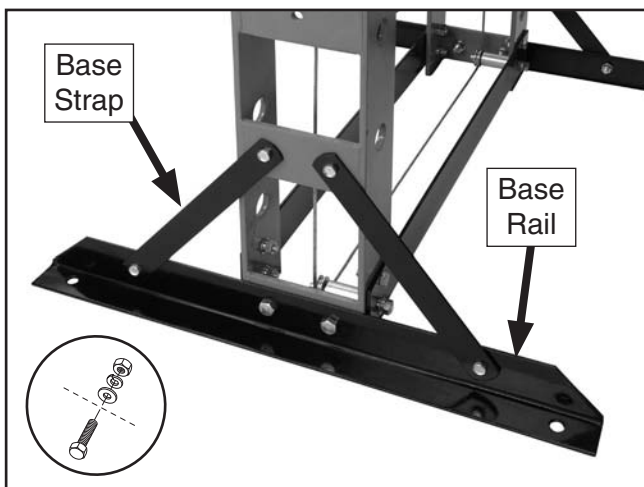

Figure 6. Base rails and straps installed.
4. Connect both base rails to each U-beam with four M16-2 x 45 hex bolts, and 16mm flat washers, lock washers, and hex nuts, as shown in **Figure 6**.
5. Using a 17mm wrench, connect the four support straps to the U-beams and the base rails with the eight M10-1.5 x 30 hex bolts, and 10mm flat washers, lock washers, and hex nuts, as shown in **Figure 6**.